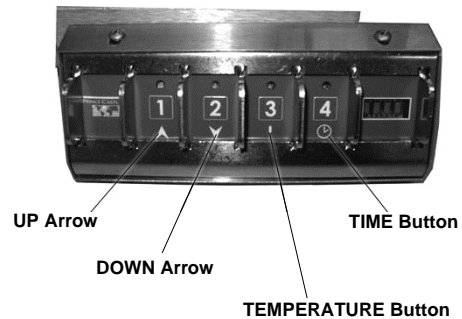

Figure 1
- Furthermore, 247 and 248 Toaster Grills allow you to manually initiate the power-saving mode. (See **Figure 1**.)